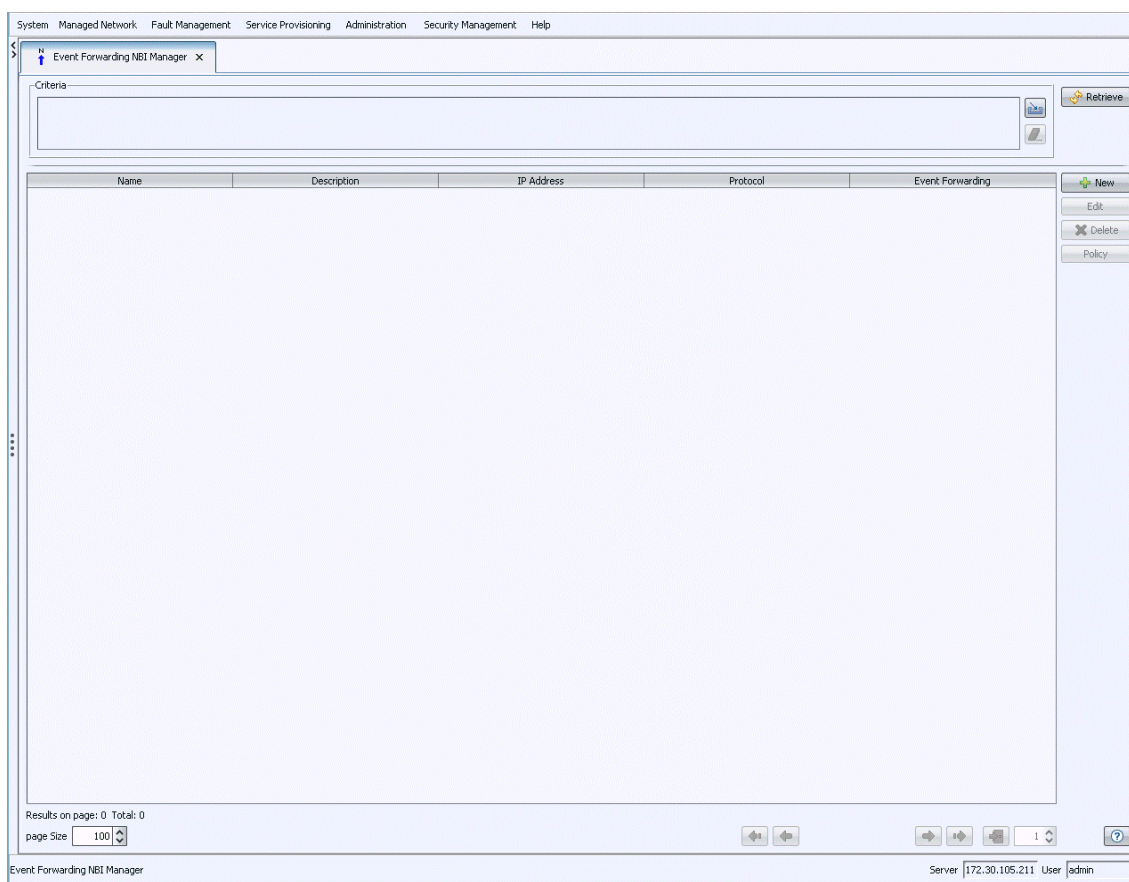

Figure 3-23: Event Forwarding NBI Manager - Criteria
- 1 From the Event Forwarding NBI Manager window (Figure 3-23), click **New** to define a new Event Forwarding NBI interface, or select an entry from the list and click Edit. The NBI Editor window is displayed:
- 1 In the Event Forwarding NBI Manager window (Figure 3-23), select the filter to remove and click **Delete**. A confirmation message is displayed.
From the Event Forwarding NBI Manager window (Figure 3-23), select an existing NBI from the list and click **Policy**. The NBI Policy List is displayed: